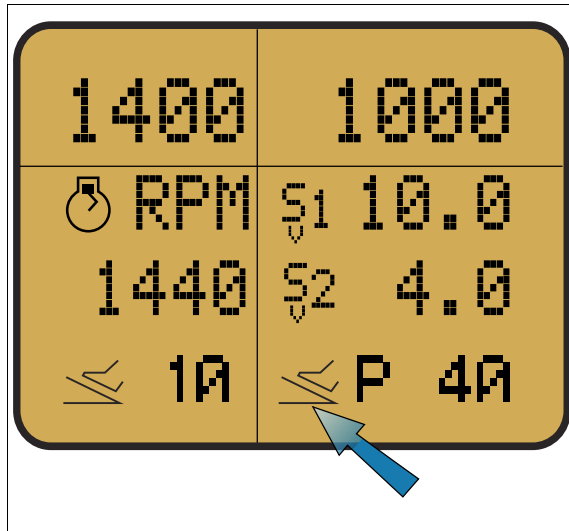

Fig. 15.
When the tractor is started, it is necessary to release the throttle pedal and press the pedal/lever mode switch (1) on the armrest; the selected mode appears on the screen fig. 15.